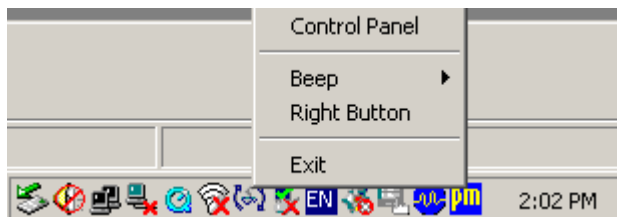

Figure 5-8: PenMount Monitor Popup Menu
- Step 4:** Click the icon. A pop up menu appears. See **Figure 5-8**.
- Step 5: Click Control Panel in the pop up menu shown in Figure 5-8.